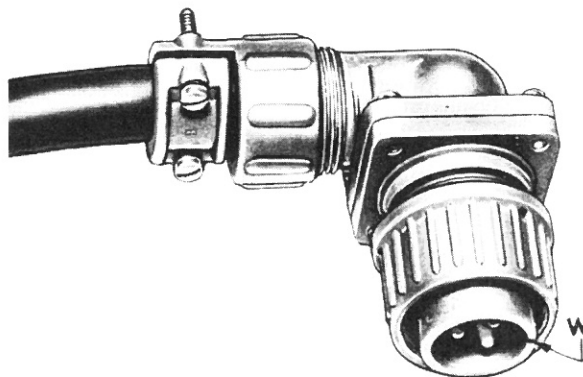

**Figure 2-6—Remote Control Plug**
(4) The connector plugs are supplied fully assembled, and it is usually necessary to take them apart in order to attach the cables. If not familiar with the work, it is well to make written notes during all disassembling operations so that the connector can be correctly reassembled. Also, reference is made to Figures 2-6 to 2-8, inclusive.
(5) Disassemble the plug, Type AN-3108-16-10P, remove the four machine screws holding the plug body and elbow together, being careful not to lose the four small black washers. Then assemble the cable clamp, black washer, and elbow on the cable as shown in Figure 2-6.
(6) Insert the tinned end of the red wire in the contact marked "A" in the plug body and solder.
(4) Disassemble Plug, Type AN-3108-16-11S in the same manner as Type AN-3108-16-10P shown in Figure 2-6. Then assemble the cable clamp, black washer,